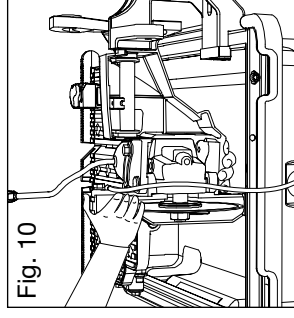
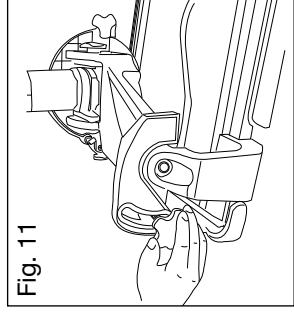

Fig. 10
Fig. 11
5. Lower arm bolts with washers (F)
8. Anti-splash guard (Incl locking win washer) (F)
10. Cutting-de adjustmer (Fig. 11, F
12. Motor/upper arm assembly (Fig. 10, Fig. 11)
6. Rotate the motor to the vertical position and secure the motor/upper-arm assembly to the lower-arm assembly with the depth-adjustment knob (Fig. 11).